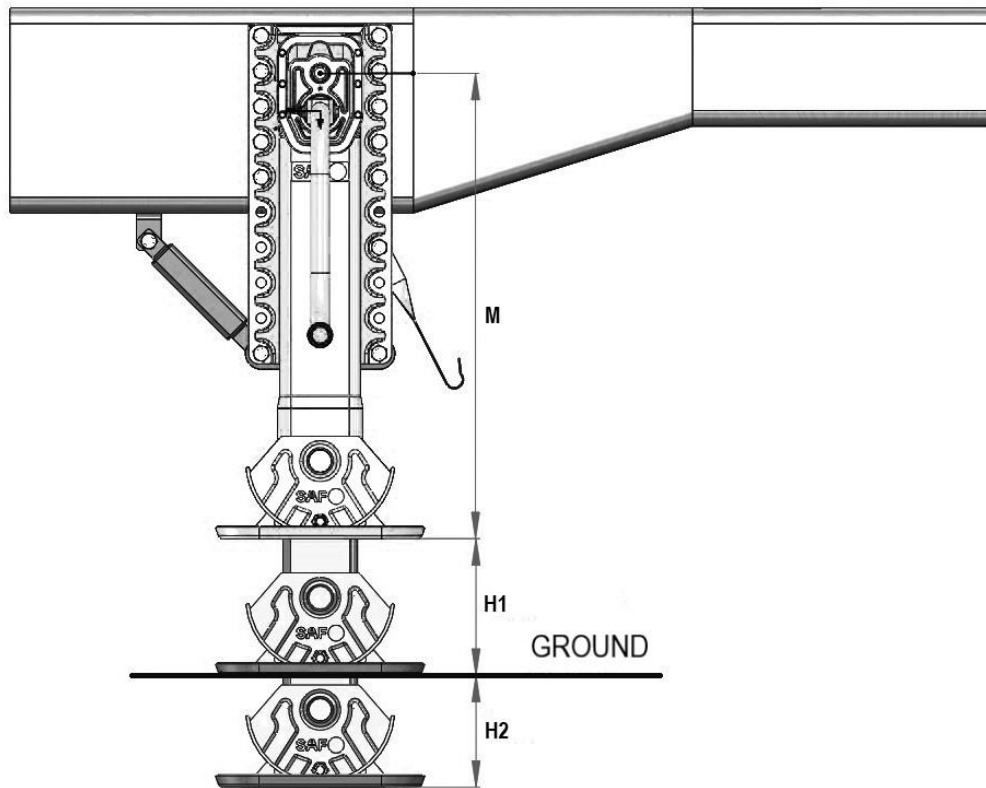

Figure 27
- The min. ground clearance is 250mm. Pay attention to the stroke reserve of the fifth wheel. See Figure 27.